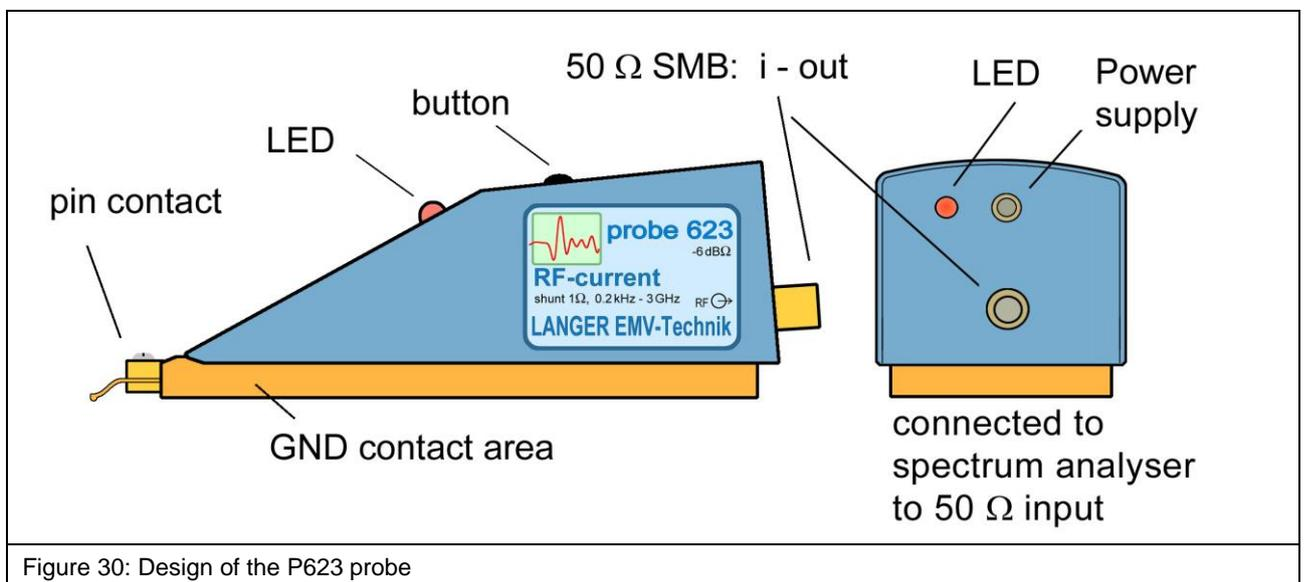

Figure 30: Design of the P623 probe
The **P623** probe contains a 1 Ohm current probe head. The input of the current probe head is connected to the probe's pin contact (Figure 30). The output of the current probe head is connected to the 50 Ohm SMB port at the rear end of the probe.
**Figure 30** shows the design of the Vdd / Vss and signal pin filters which are located on the bottom of the test board. Please refer to the “IC test instructions” for a guideline on how to set up a test board.